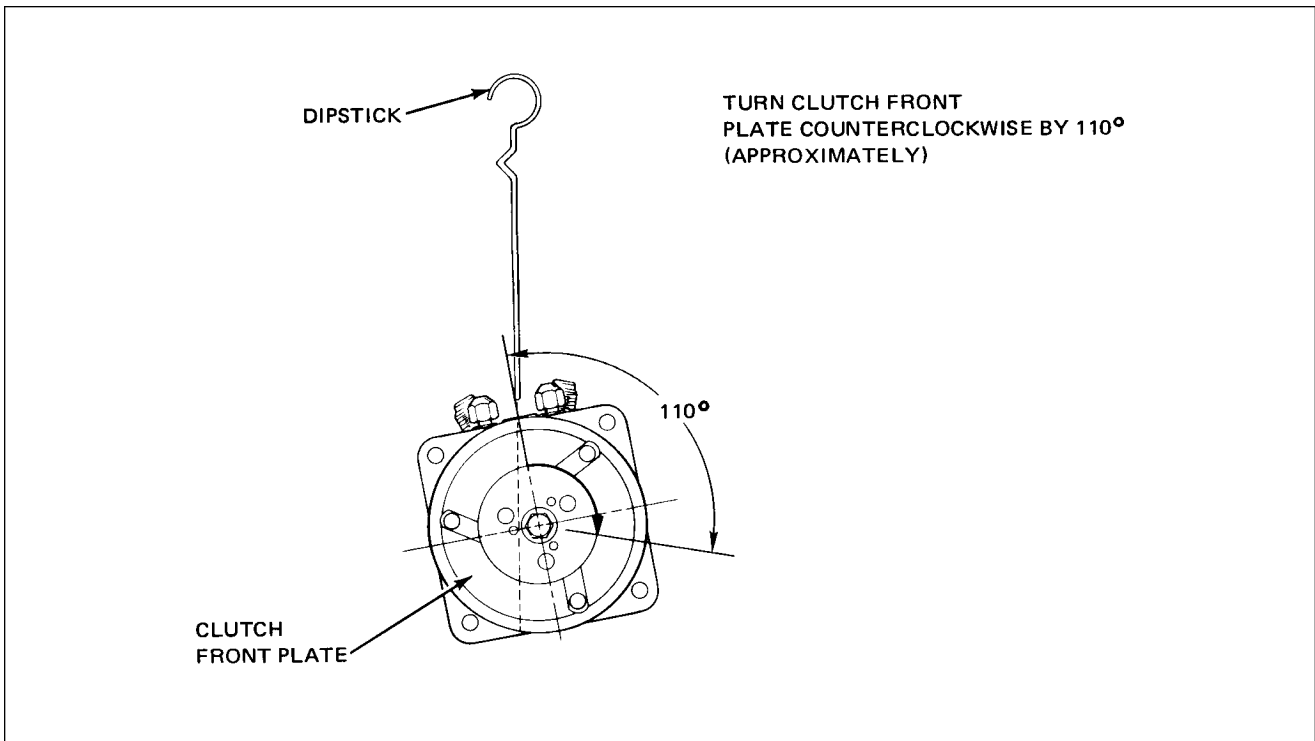

Figure 21-13. Rotation of Clutch Front Plate (Sankyo Compressor Oil Check)
- E. Rotate the clutch front plate clockwise by approximately 110°. (Refer to Figure 21-13.)